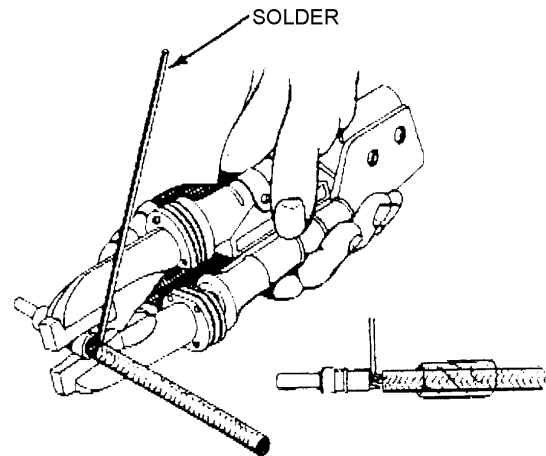

Figure 19. Resistance Soldering to Large Contacts
a. Large contacts are soldered to wires by the use of resistance soldering pliers (Figure 19). The contact is removed from the insert, held in the jaws of the pliers and current is applied until the solder in the cup has melted. The tinned wire is inserted slowly into the solder cup while the current is being applied. After the wire is fully inserted, continue heating until the solder flows to form a smooth fillet. Allow joint to cool and harden without movement.